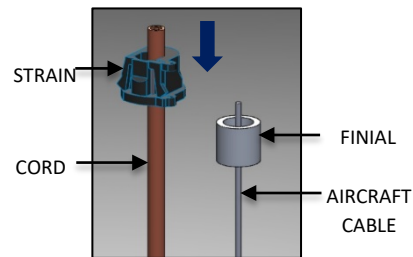

FIG. 18 - STRAIN RELIEF
- Pass the FINIAL and the STRAIN RELIEF through the AIRCRAFT CABLE and CORD, respectively. Adjust the STRAIN RELIEF as needed to get the desired CORD length as shown in FIG. 18 below.